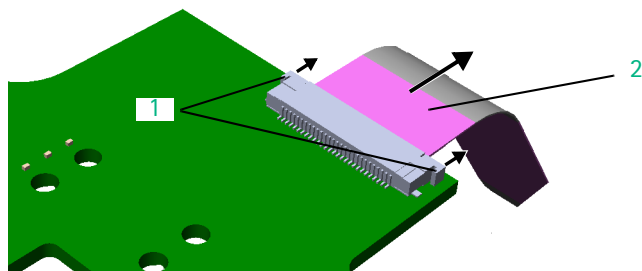

Fig. 3 - 1
1. Carefully push the locks of the connector (Fig. 3 - 1 / Item 1) on the right and left toward the ribbon cable using a small screwdriver or special tool.
2. Pull the ribbon cable (Fig. 3 - 1 / Item 2) out of the connector.